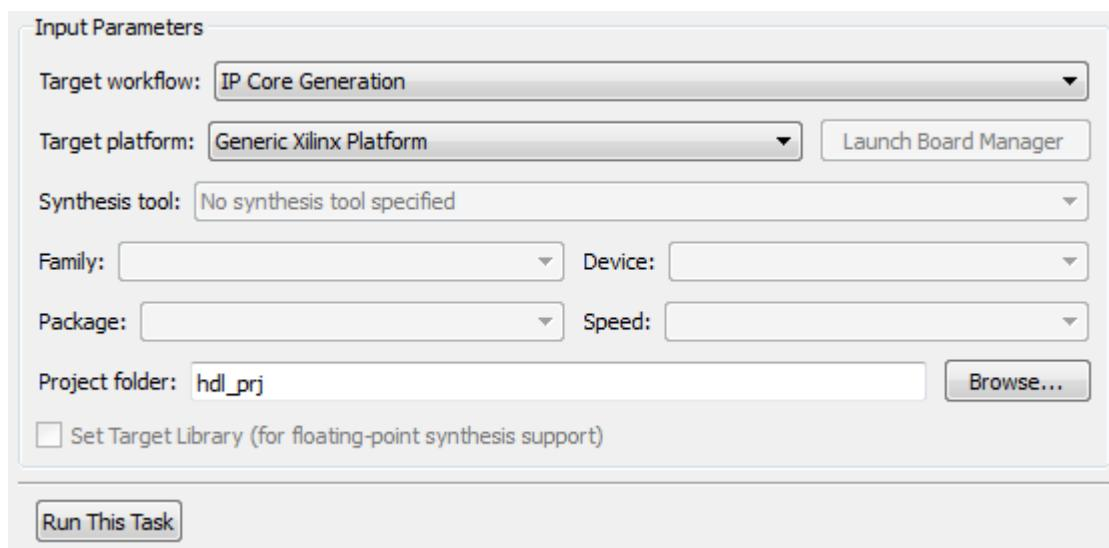

Figure 4.23: HDL Workflow Advisor Input Parameters
- (i) In the *Input Parameters* pane, select **IP Core Generation** as the *Target workflow*, and **Generic Xilinx Platform** as the *Target platform*, as shown in Figure 4.23.